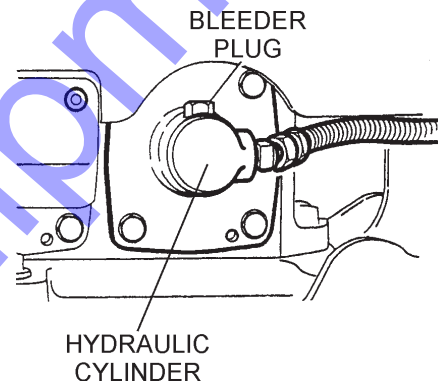

Figure 35. Bleeder Plug
3. Loosen bleeder plug located at top of hydraulic cylinder on side of vibrator (Figure 35). Air remaining in the circuit will be forced out of the bleeder plug. Once all air has been purged from the hydraulic system, tighten bleeder plug securely